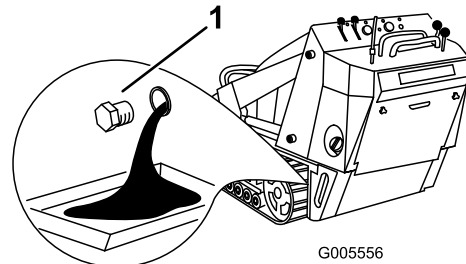

Figure 29
4. Remove the drain plug (Figure 29).